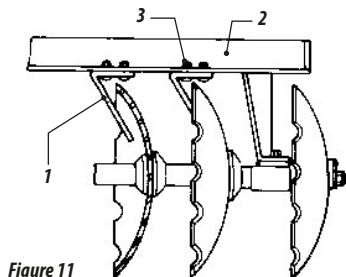

Figure 11
- 23 - Set the scrapers item 1 in the front and rear frames, with bolts item 3, as shown in Figure 11.